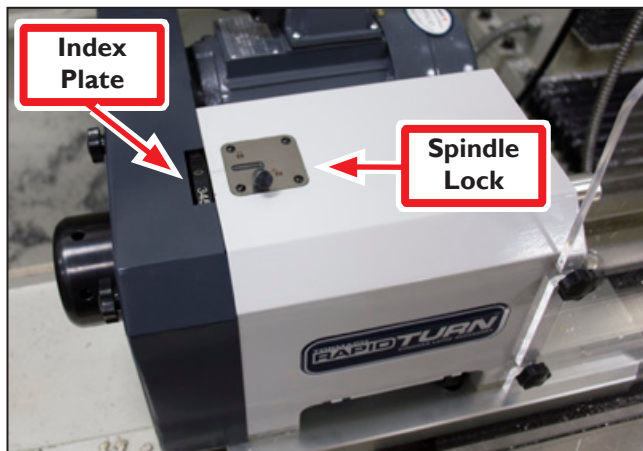
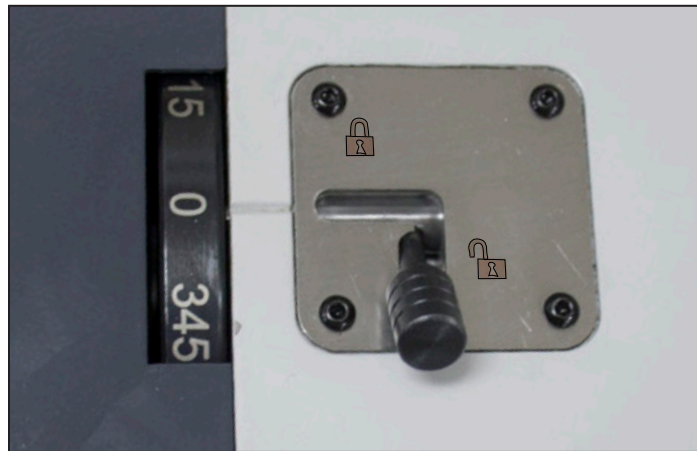

Figure 3.5
Figure 3.6
4. Ensure Spindle Lock (see **Figure 3.5**) is set to *unlocked* position as shown in **Figure 3.6**. For more information on using the spindle lock, refer to *Workholding* section later in this chapter.
The RapidTurn has an Index Plate (with 15 degree increments) and Spindle Lock (see **Figure 3.5**), which allows the operator to perform indexed, 4th axis operations on a mill without the need to change workholding.